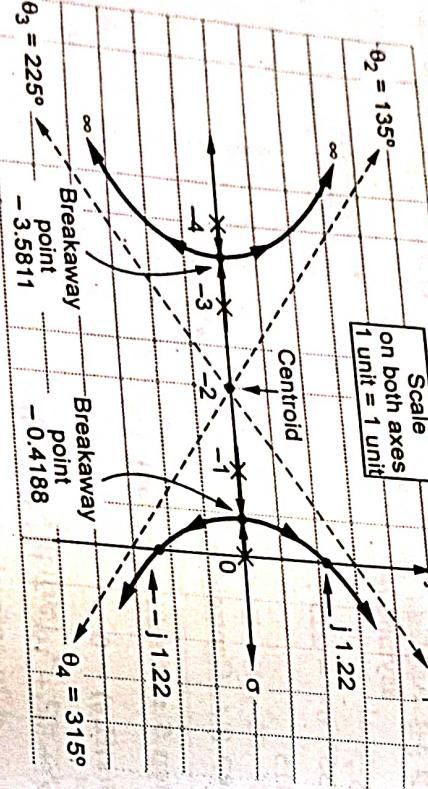

Fig. Q.23.1
**Step 7 : The nature of root locus is shown in the Fig. Q.23.1.**